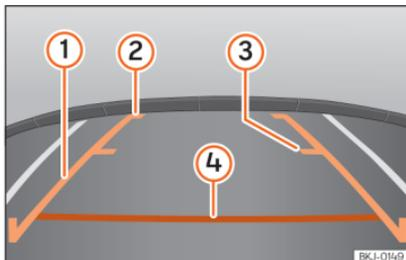

Fig. 249 Display on the Easy Connect system screen: guide lines.
- Vehicle load modifies the representation of the guide lines »» Fig. 249. The width represented by the lines decreases with vehicle load. Pay special attention to the surroundings when the inside of the vehicle of the luggage compartment are loaded.
Meaning of the orientation lines » Fig. 249